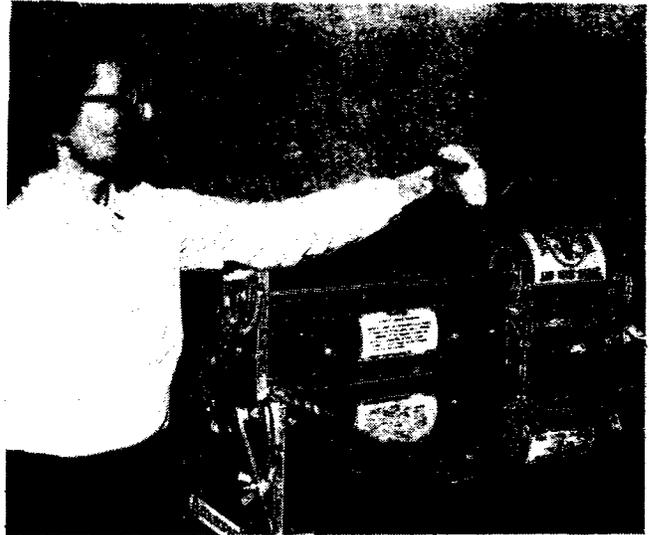

Figure 2-2. Inserting Dough in Top Hopper Chute.
- a. Place the dough piece in the top dough hopper chute (part of item 10) end first (Figure 2-2).